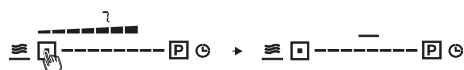

Fig. 38
If you want to activate the standby mode without waiting for 30 seconds, press the hood activation button (P) on the hood control area for 2 seconds (Fig. 38).